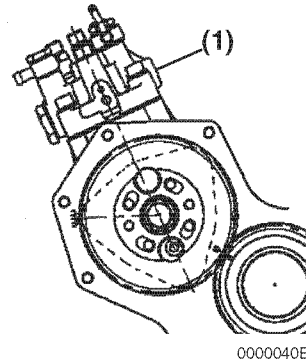
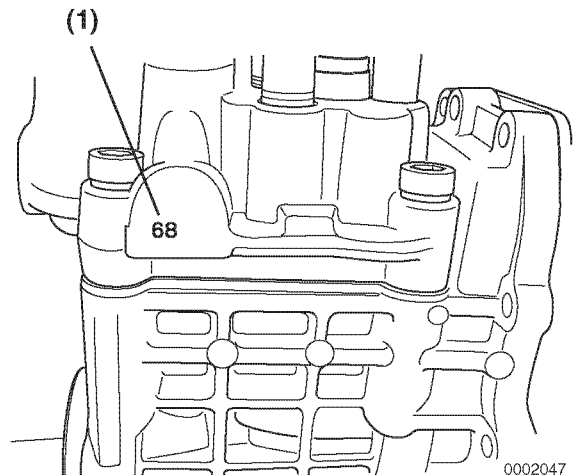

Figure 7-33
Figure 7-34
1. Locate and record the fuel injection pump timing index number (**Figure 7-34, (1)**) stamped into the boss on the engine side of the fuel injection pump housing (**Figure 7-33, (1)**). Treat this number as though there is a decimal point between the two digits. i.e. 68 = 6.8